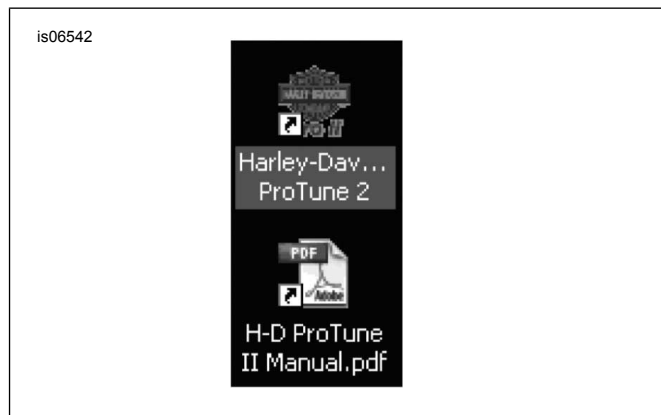

Figure 5. Protune II Program and Manual Icons
2. See Figure 5. After the installation, the ProTune II program and user manual icons will appear on your desktop. ProTune II can be opened by double-clicking on the program icon. This will be used later to load a calibration into the ECM.